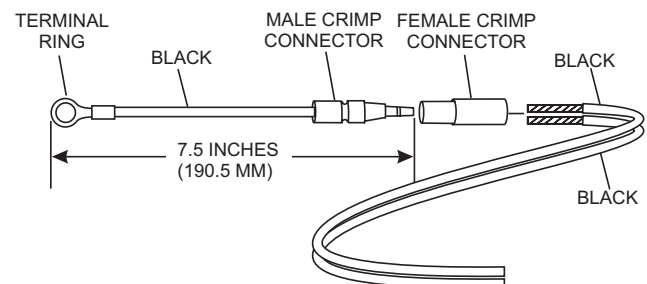

Figure 4. Black Wire Crimp Connection
- Insert, then crimp both black wires (Figure 4) into the female crimp connector.